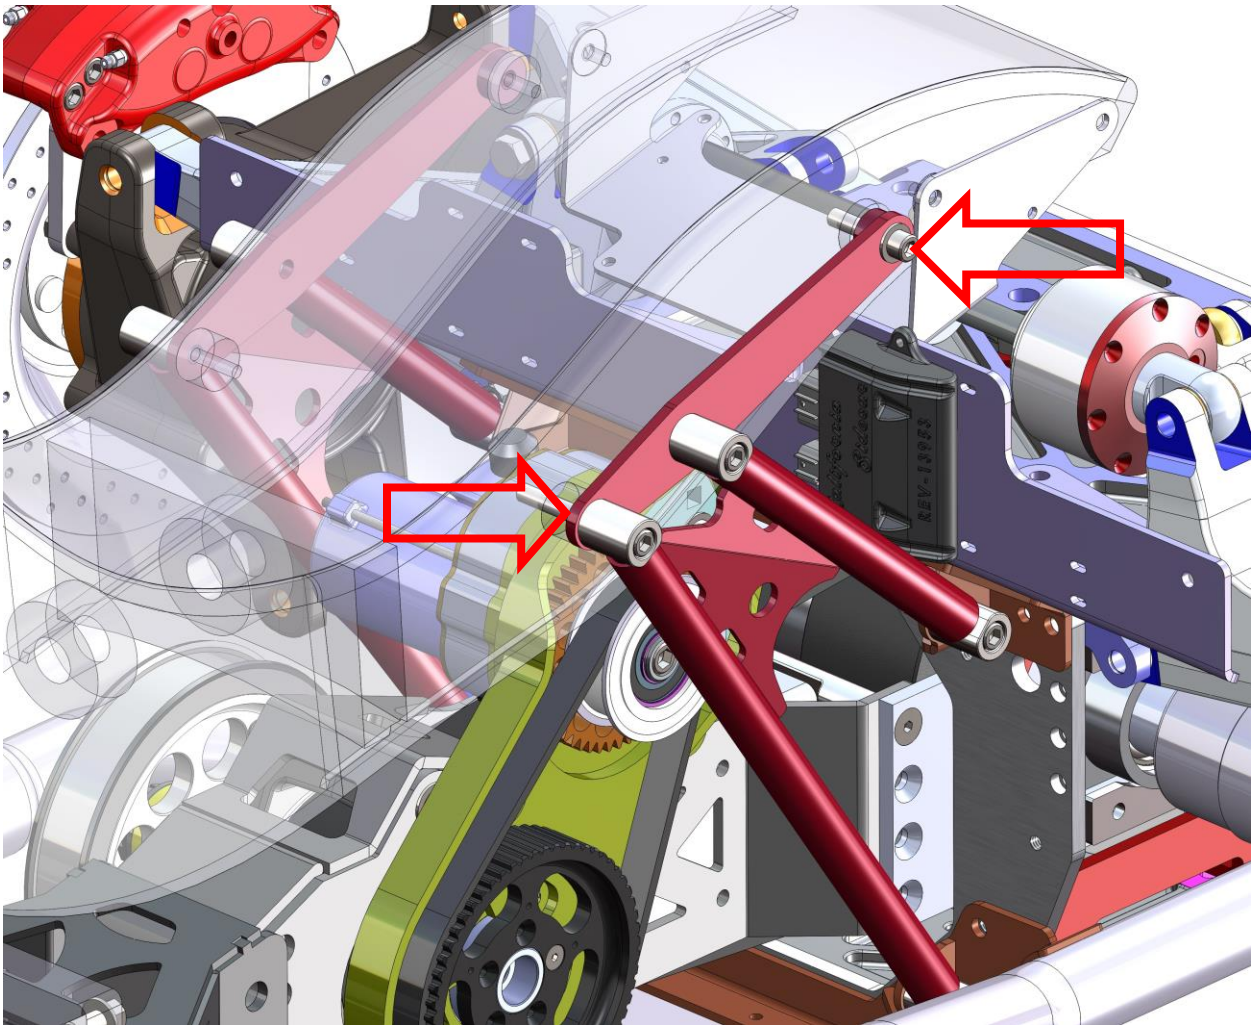

fig 2.
5. Locate the Frame Mount Plate on side of frame using the included spacer placed between the frame and Mount Plate in the rear hole. Install **3/8-16 x 1-3/4** SHCS with washer through rear hole of Plate, then spacer, last through the drilled out hole in frame and secure with 3/8 nyloc nut and washer on inside of frame. Install **3/8-16 x 3** SHCS through front Frame Mount boss and Plate with 3/8 nyloc nut and washer on inside of frame (see fig 2).
6. Insert a **3/8-16 x 1-1/4** SHCS into the upper rear Frame Mount boss and through the Plate with 3/8 nyloc nut and washer on inside of Plate (see fig 2).